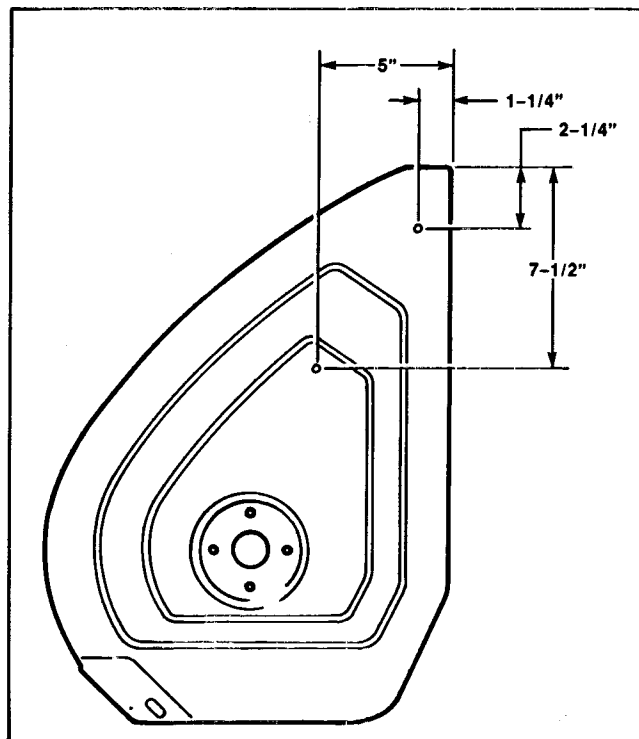

Figure 141
1. If this is the original installation, center punch the two mounting holes at the location indicated in Figure 141. Do this to each side of the housing. (Use the template in the kit if available).